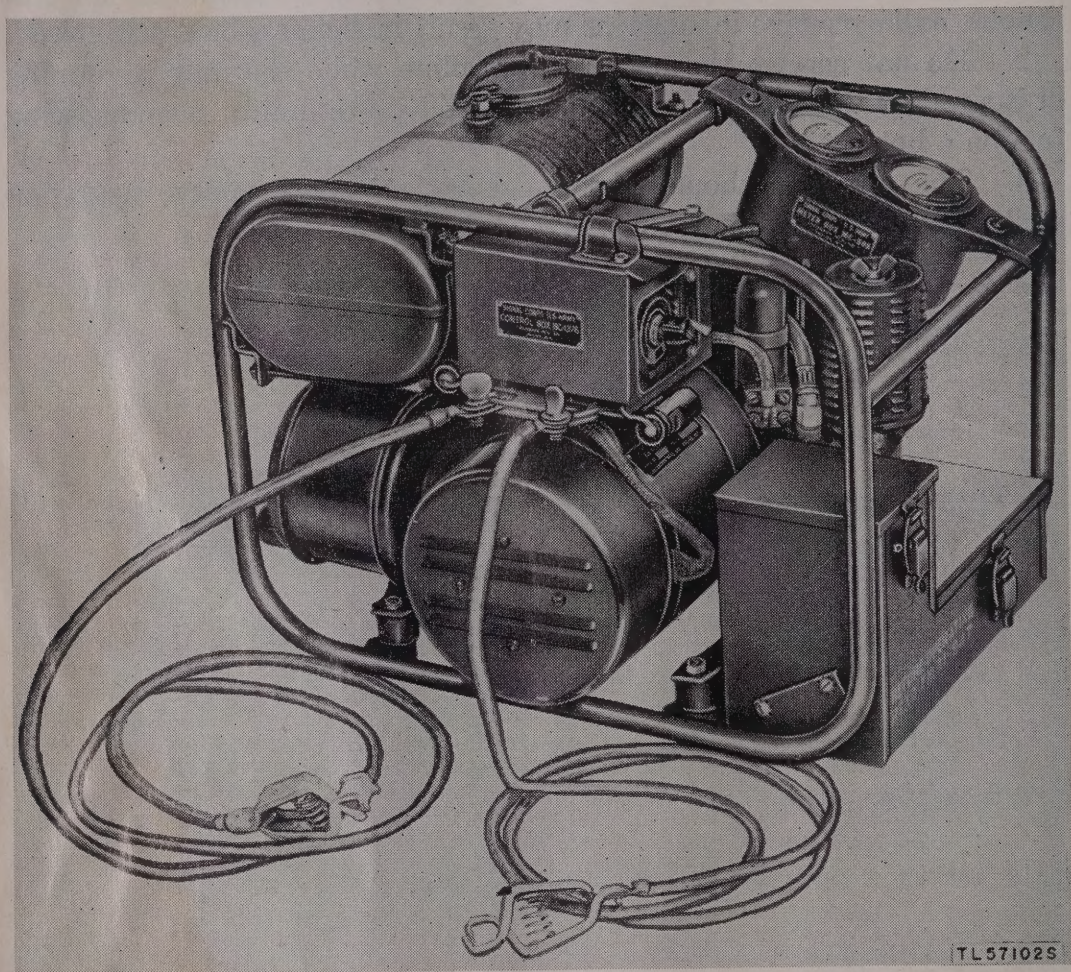

Figure 1. Power Unit PE-210, set up for use.
a. Power Unit PE-210 (figs. 1 and 2) is a compact, lightweight, electric generator set, consisting of a gasoline Engine GE-12-B and a d-c (direct-current) Generator GN-52-B. It has a nominal rating of 450 watts and is designed to deliver 30 amperes dc, with voltage variable from 6 to 22 volts. The unit may be started by hand or by connecting it to a 6-, 12-, or 18-volt storage battery. The unit is used principally for charging storage batteries. It may also be incorporated as an aid in starting larger power units at very low temperatures.